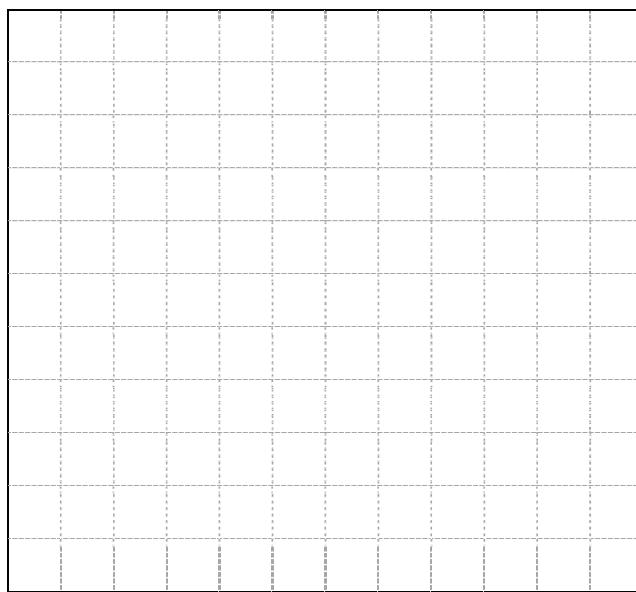

Figure 1-14. Linear and S-shape acceleration patterns.
- 18.** Plot the curves showing the linear and S-shape acceleration patterns in Figure 1-14. Place the Time values along the X-axis, and the Frequency values along the Y-axis.